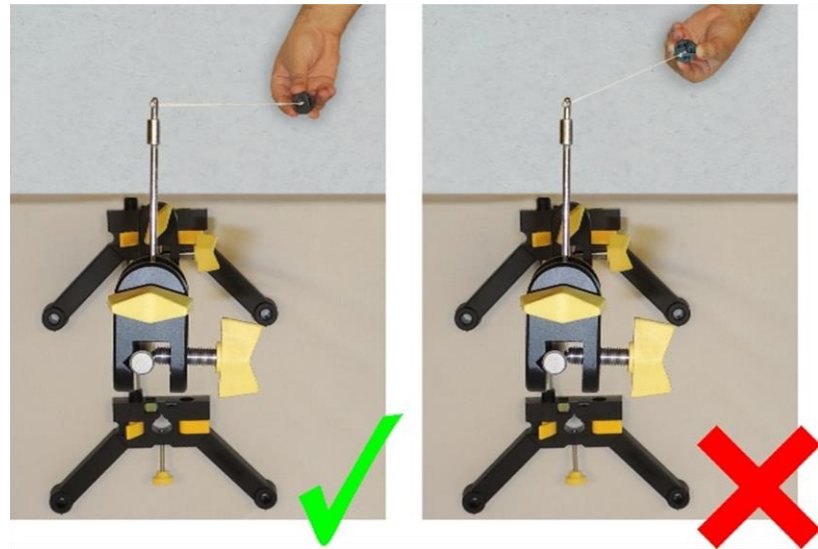

Figure 1.13: The string, the weight holder and the tip of the pin should all be found in the same vertical plane .
- When the pendulum is moved, the string, the weight holder and the tip of the pin (11) should all be found in the same vertical plane parallel to the table front side as shown in Figure 1.13.